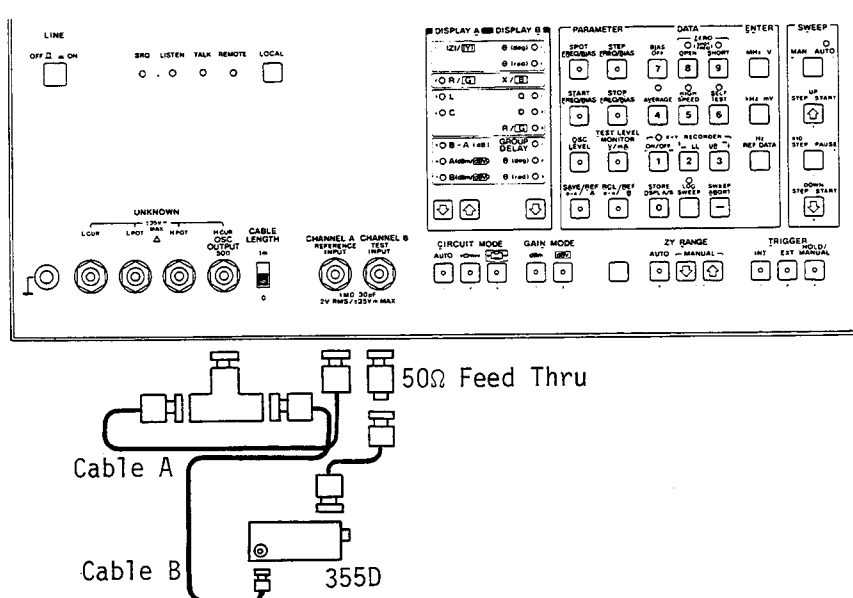

Figure 4-7. Amplitude Accuracy Test Setup.
- a. Connect the attenuator, termination, adapter, and cables to the 4192A as shown in Figure 4-7.